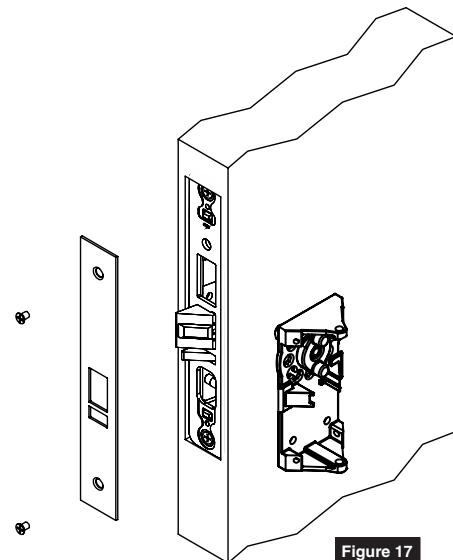

Figure 17
- Attach outside front plate to lock front with two (2) #8-32 x 1/4" flat head screws. (Figure 17)